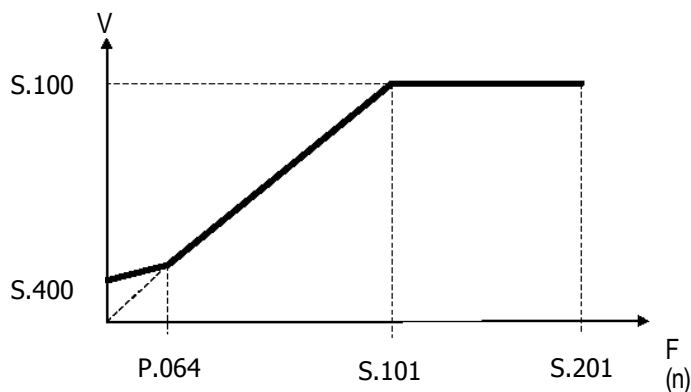

Figure 7.3.3: Manual Boost Voltage
P.064 parameter represents the return point of the output voltage, on the linear characteristic of V/fratio (see figure 7.3.3).